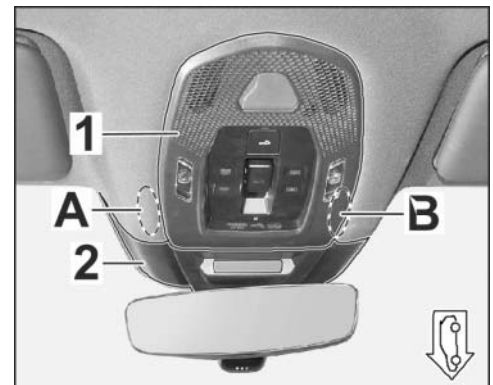

Figure 3
1.2 Expose front roof/rear-view mirror area (interior ⇒ *Figure 3*)